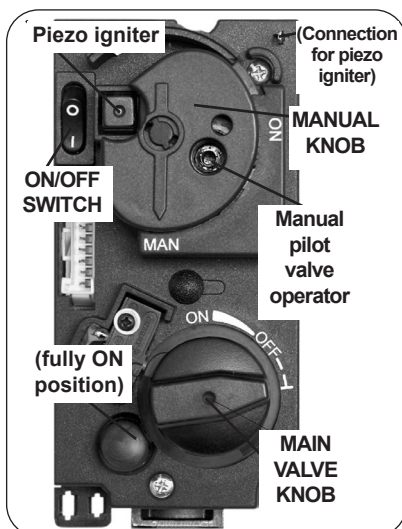
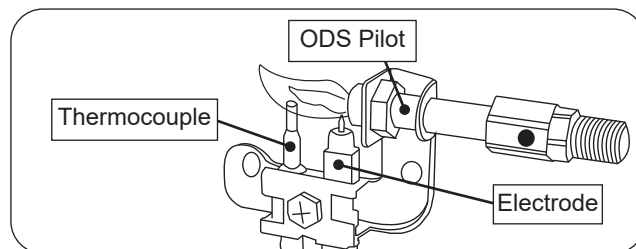

Fig. 25-1 Combination control
Fig. 25-2 ODS Pilot assembly detail
2. Locate the valve on the unit. Turn the control knob clockwise ↻ to **OFF**, the manual knob clockwise ↻ to **MAN**, and place the ON/OFF switch in the **OFF (O)** position (Fig. 25-1).
**Wait five (5) minutes to clear out any gas. Then smell for gas, including near the floor. If you smell gas, STOP! Follow "B" in the safety information above. If you do not smell gas, go to the next step.**
3. Place the ON/OFF switch in the **ON (I)** position.
4. Locate the pilot assembly toward the center of the unit, near the main burner (see Fig. 25-2).
5. Push the manual pilot valve operator **firmly and fully** in and hold. Hold a long-stem match/ long-necked butane lighter near the thermocouple to light the pilot. Continue to hold the knob in for about one (1) minute after the pilot is lit. Release the manual pilot valve operator. The pilot will remain lit. See Fig. 25-1 and 25-2. If it goes out, repeat steps 2-5.
1. Ensure the pilot is burning. Turn the manual knob counterclockwise ↺ to **ON**. Turn the control knob counterclockwise ↺ to **ON**. See Fig. 25-1. The valve will open and the burner will light.
**To shut down the main burner (pilot will remain lit),** turn the control knob clockwise ↻ to the fully OFF position (see Fig. 25-1).
**To shut down the burner and pilot (total shutdown),** turn the control knob clockwise ↻ to the fully OFF position, and place the ON/OFF switch in the **OFF (O)** position (see Fig. 25-1).